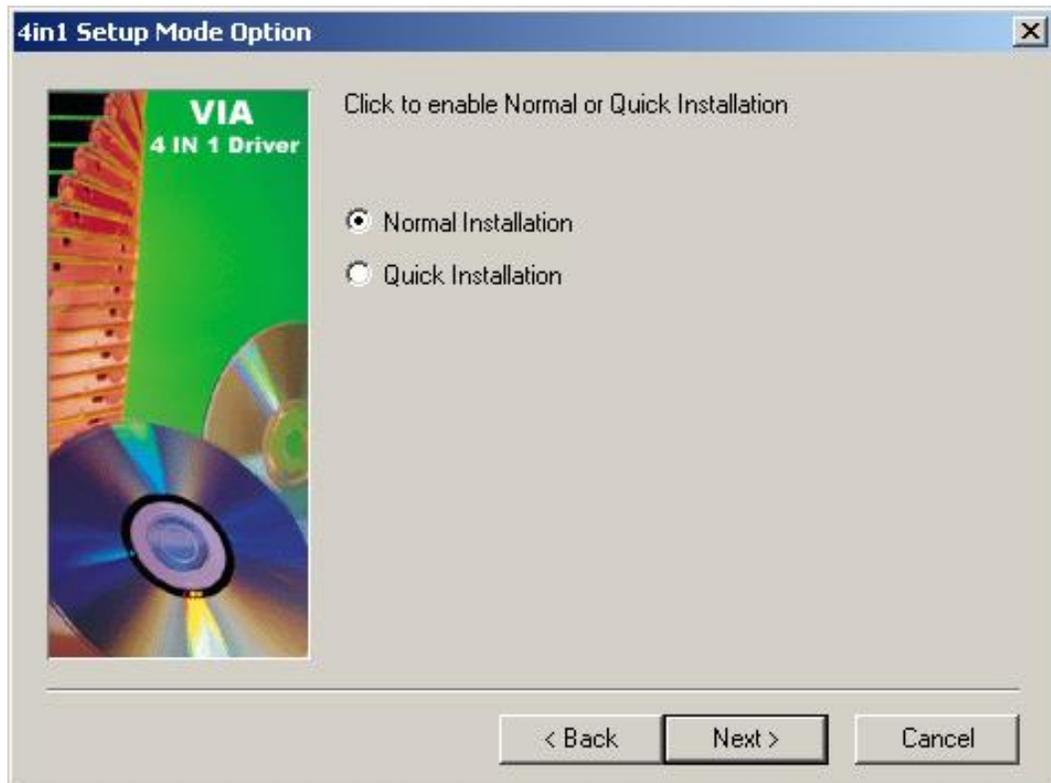

Figure 7-5: VIA Chipset Driver Installation Type
Step 6: Select “Normal Installation” or “Quick Installation.” (See **Figure 7-5**) Click “NEXT” to continue.